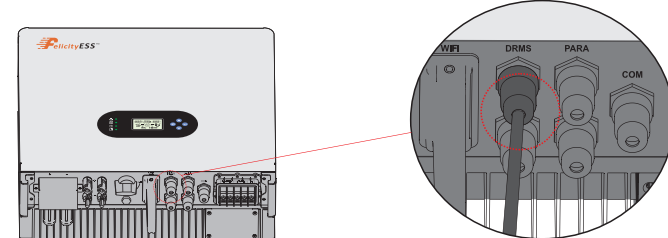

Figure 4.5-5 RJ45 interface
Step 4. Connect RJ45 terminal to the right position onto the inverter. See Figure 4.5-5.